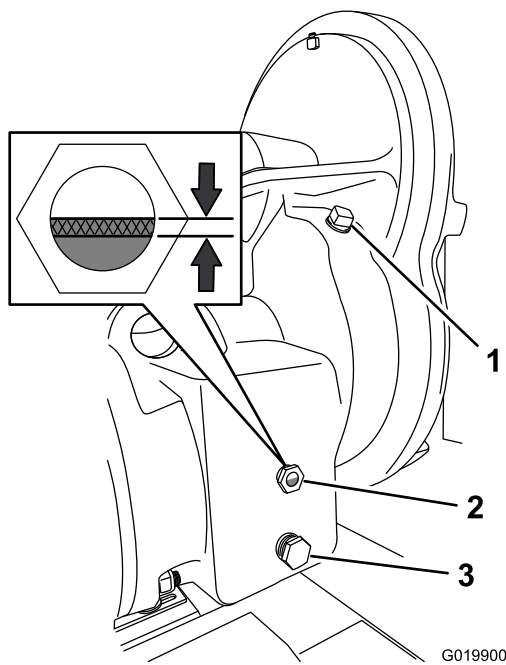

Figure 62
3. At the right side of the gear case, examine the oil level in the sight glass (Figure 62).
6. Install the drain plug in the drain port (Figure 62).
7. Slowly add the specified oil into the fill port until the oil level is between 1/3 and 1/2 of the sight glass (Figure 62).
8. Install the fill plug in the fill port (Figure 62).
- A. Remove the fill plug from the fill port in the housing of the gear case (Figure 62).
- B. Slowly add the specified oil into the fill port until the oil level is between 1/3 and 1/2 of the sight glass (Figure 62).
- E. Install the plug into the fill port in the housing (Figure 62).
2. Align a drain pan with a 3-quart capacity under the drain plug (Figure 62).
3. Remove the drain plug from the drain port, and completely drain the gear-case oil (Figure 62).
4. Remove the fill plug (Figure 62).